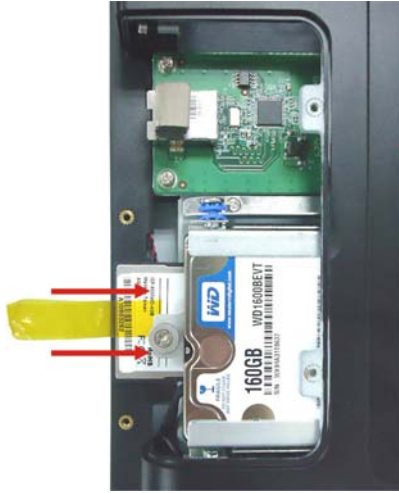

Figure 4-8: Inserting the CF Card
Step 4: Insert the CF card into the slot until it cannot be pushed in any further. (Figure 4-8).